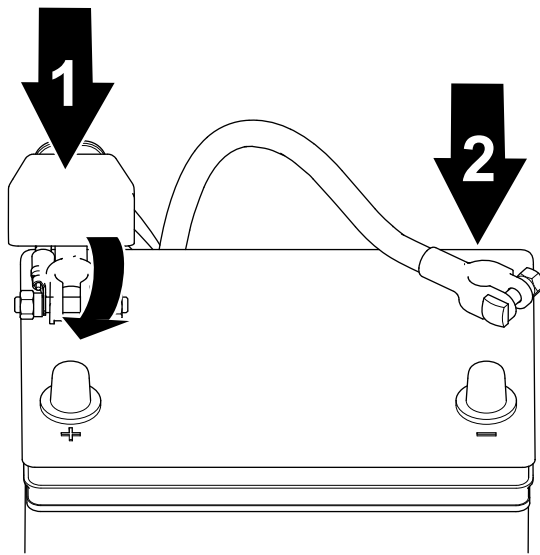

Figure 47
1. Connect the positive cable to the battery and tighten the battery-clamp nut (Figure 47).
2. Connect the negative cable to the battery and tighten the battery-clamp nut (Figure 47).